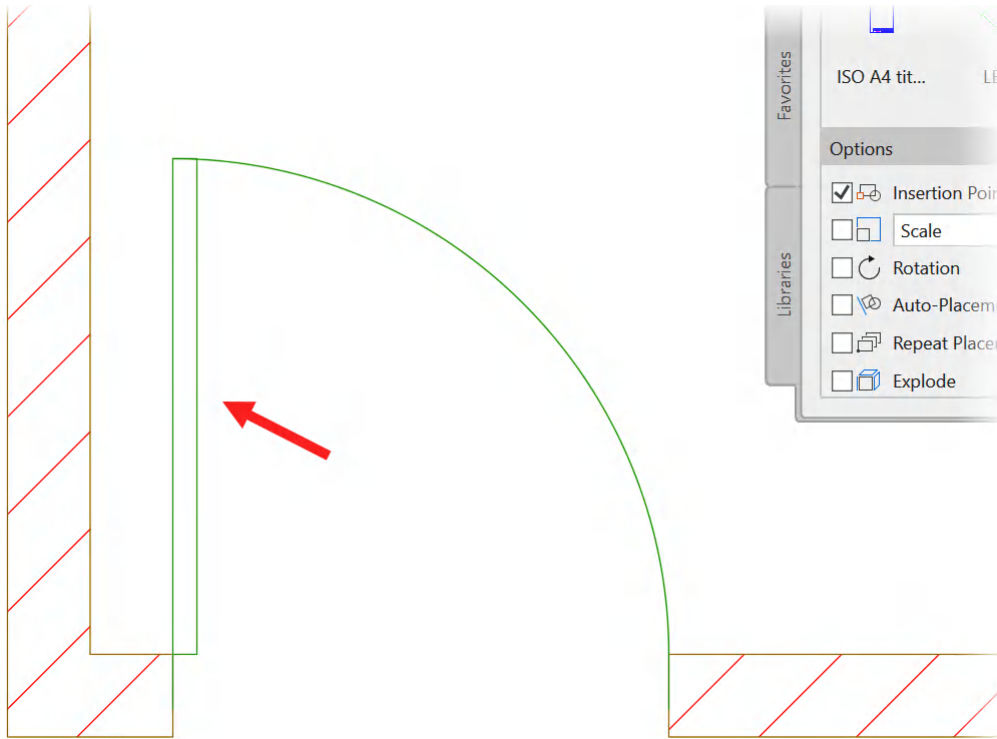

Figure 9.16: The dynamic door block with its 90° vertical swing
9. Selecting the **Open 90°** option will update the dynamic door swing vertically, as shown in *Figure 9.16*. Press *Escape* a couple of times to ensure you have deselected the block.